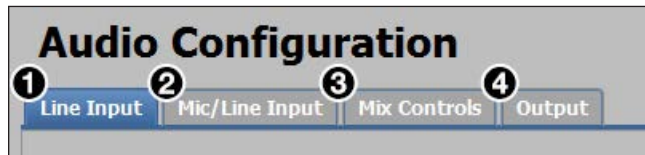

Figure 69. Audio Configuration Tabs
1. From the **Line Input** tab (see figure 69, **1**), set audio input formats and set the input gain at optimal settings.